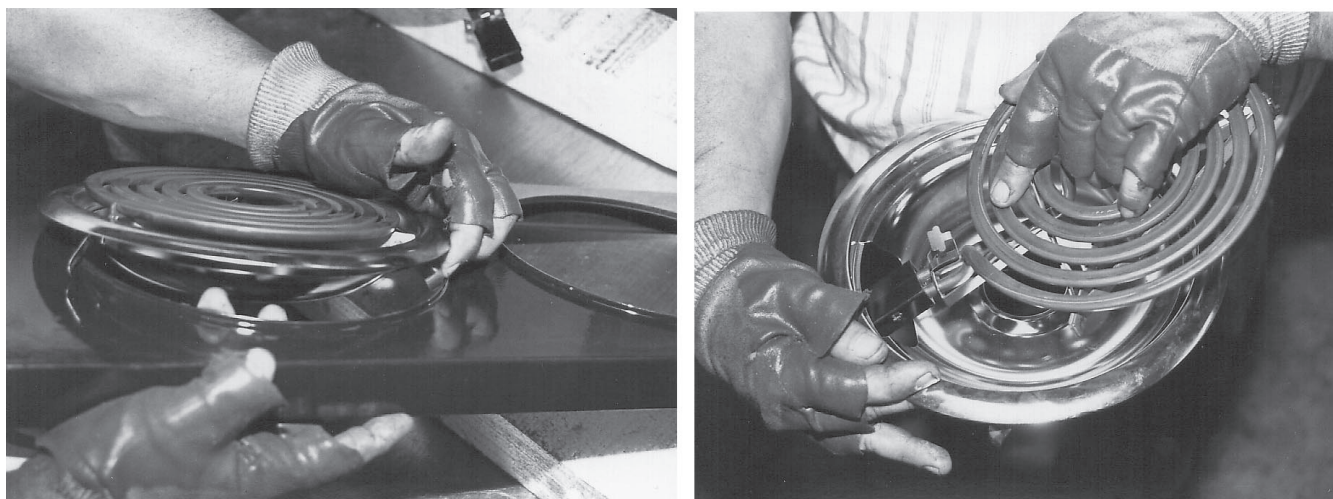

Fig. 25
4. Snap the element out of the ring/bowel assembly. (Fig 25)